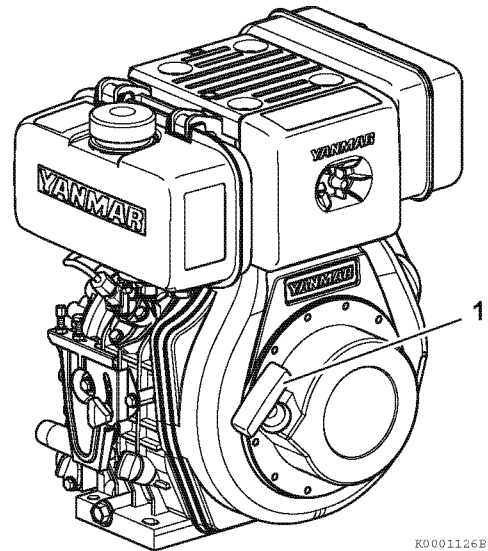

Figure 6
1. Grasp the recoil starter handle (1, Figure 6).
5. Grasp the recoil starter handle (1, Figure 6).
1. Grasp the recoil starter handle (1, **Figure 6**).